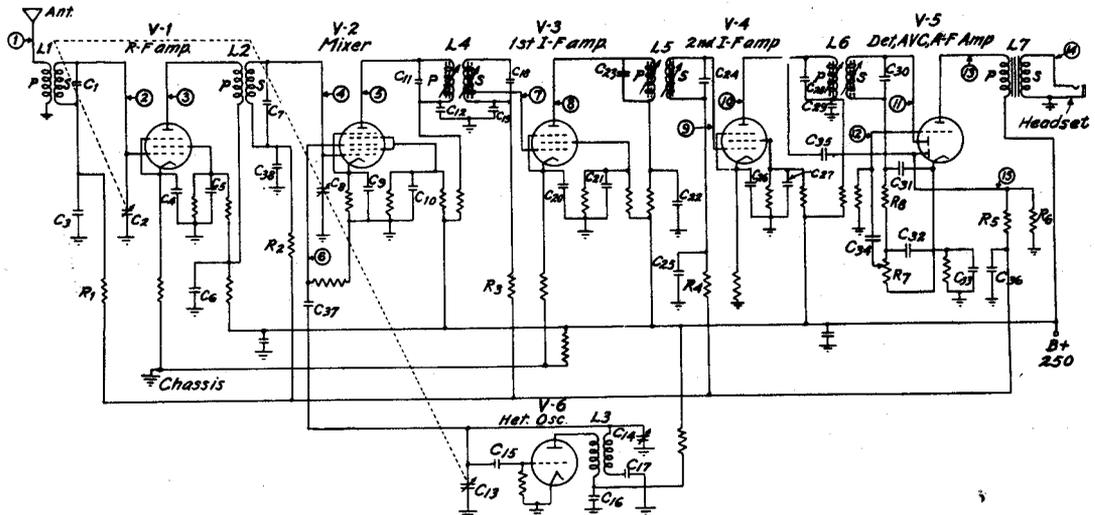

Fig. 4.—Schematic diagram of a superheterodyne receiver, showing test points.
b. *Operational tests (signal tracing).*--(1) To make an operational test of a superheterodyne receiver similar to figure 4, use a signal generator connected to the antenna and ground terminals of the set, and a VTVM (vacuum tube voltmeter) for making output signal measurements at successive stages in the set. The VT voltmeter must be sufficiently sensitive to give readings at the input end of the set. It should have a low range of 0 to .5 volt or even less. The input impedance should be at least 2 or 3 megohms. If the tester starts at the 1st radio frequency (r-f) amplifier (V-1) and works toward the audio-frequency (a-f) amplifier, the stage where the signal ceases is the one causing the trouble.
(2) In the absence of a sensitive electronic or VT voltmeter, it is possible to vary the procedure by connecting the signal generator successively to the input circuits of the a-f amp stage, detector, i-f amp stages, mixer and r-f amp stages. The receiver loudspeaker or headset will give an audible indication of the stage at which the signal ceases. In using the signal generator with this second method, it is essential to adjust it to generate a signal of the same frequency as that to which the stage under test is tuned. For example, in superheterodyne receivers the i-f amplifier stages always are tuned to a different frequency from the mixer and r-f stages. In this manual the maintenance data sheets for a particular receiver indicate the frequency which should be used for testing and aligning both i-f and r-f stages.
(3) Figure 4 shows a typical superheterodyne receiver. Starting at the antenna, we will go through a stage-by-stage analysis using the first method of testing with a signal generator (such as an I-72-B) and a sensitive VT voltmeter. It is assumed that tubes already have been tested, and resistance, current, and voltage checks made. Test the signal generator and VT voltmeter before using to be certain that they are operating properly. This can be done by connecting them to a receiver which operates perfectly and noting whether a meter deflection occurs when the signal generator and receiver are properly adjusted. After connecting the signal generator to the receiver antenna post and chassis, adjust both generator and receiver to the proper frequency (the frequency must be within the tuning range of the receiver r-f stage when using this first method of testing).
(4) Set the OUTPUT control of the signal generator to give unmodulated output and the attenuator STEP and VERNIER controls to 1 and 0 respectively. Connect the VT voltmeter prods to the receiver chassis and to point ① of the receiver shown in figure 4. Adjust the meter for its lowest range. Now *carefully* adjust the two attenuator controls on the signal generator until a deflection is observed on the VT voltmeter. If no reading can be obtained, there is either a short circuit to ground through the primary of the antenna coil ( $L_1$ ), or, if the receiver has a band switch arrangement, the trouble may be in the switching mechanism.